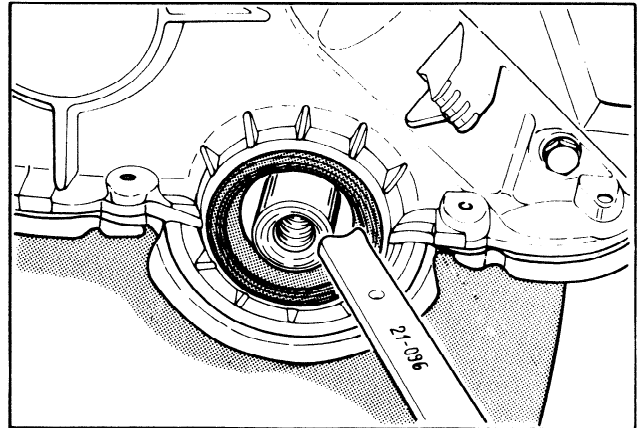

FIG. 36 Removing Front Cover Oil Seal
3. Remove oil seal from front cover using special service tool (21-096). NOTE: Use short end of tool on this seal (Figure 36).